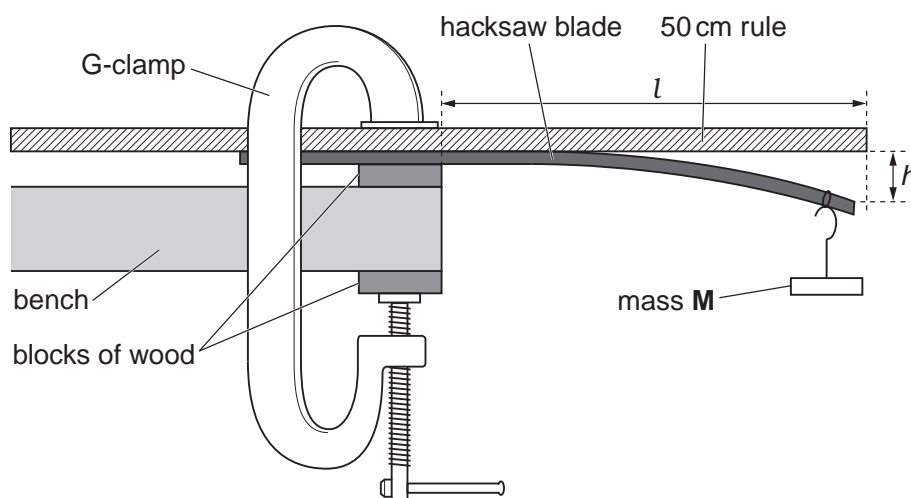

Fig. 1.1
- 1 × G-clamp as shown in Fig. 1.1, 10 cm size may be suitable
- 1 The apparatus should be set up for the candidates, as shown in Fig. 1.1, with the length l at approximately 25 cm.
- 6 The first 50 cm rule is to be used as indicated in Fig. 1.1. The second 50 cm rule should be placed vertically at the side of the apparatus for the candidate to use to measure h . A metre rule may be substituted for the second 50 cm rule provided the bench top is more than 1 m above the floor.